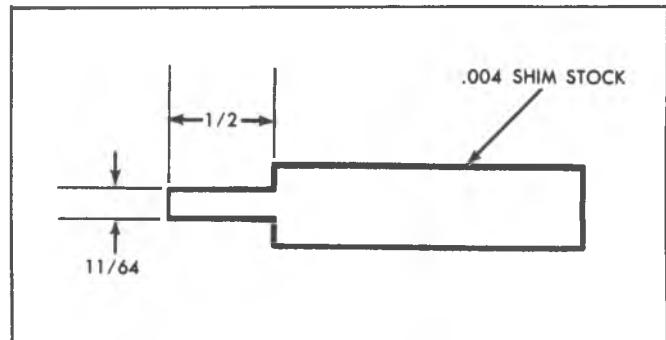

Fig. 6A4-46-Oil Seal Installation Tool
9. Measure crankshaft end play (see specifications) by forcing the crankshaft to the extreme front position. Measure at the front end of the rear main bearing with a feeler gage (fig. 6A4-45).